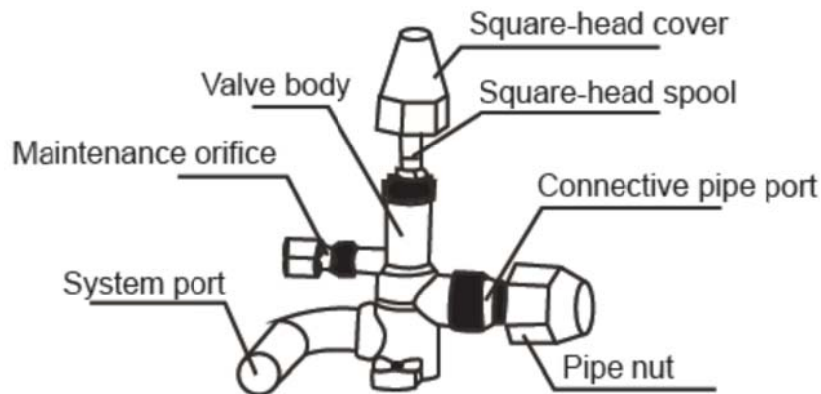

Fig 2-14
- Upon completion of installation, open all valves before trial run. Each unit has two valves of different sizes located at the outdoor unit side. Of the two valves, one is gas valve and the other is liquid valve. The procedure of opening/closing the valve is shown in the right figure (Fig 2-14).